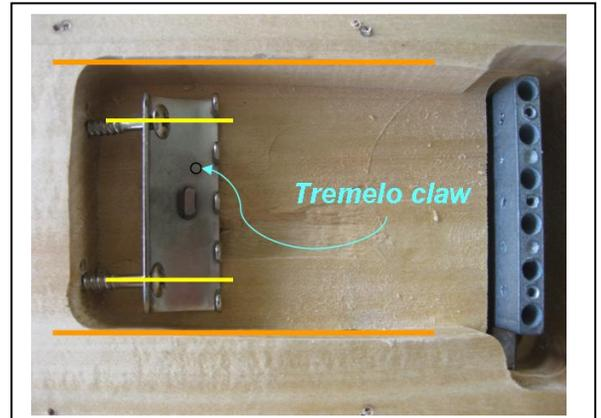

Figure 2.6 Tremolo claw Alignment
Using the Tremolo claw as a template, start the mounting screws (1 ¼") approximately ½" into the Body - they should be centered horizontally and vertically in the back Body pocket (Figure 2.6). Skip to step 2.7 if the alignment is correct.
2. Start the mounting screws approximately ½" into the Body – ensure they are centered (Figure 2.6).